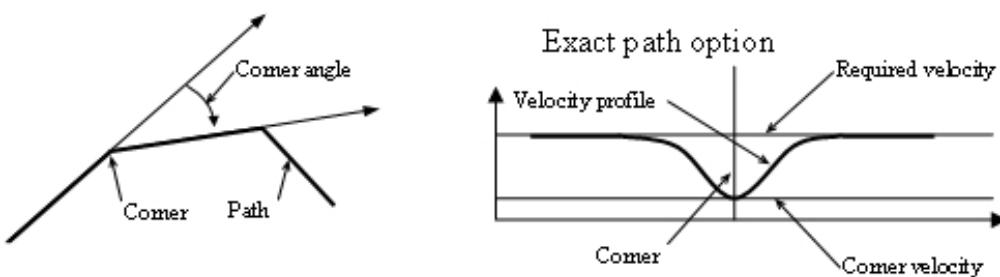

Figure 2-17. Corner Processing - Exact Path Option
**Exact path:** no deviation from the specified path is permitted. The user specifies two additional parameters: threshold angle and corner velocity. The controller compares the corner angle and the threshold angle. If the corner angle is smaller, the controller ignores the corner and tries to move as if the junction is smooth (the threshold angle cannot be large, otherwise passing the junction at working velocity can produce mechanical jerk). If the corner angle is greater, the controller executes deceleration to achieve the junction point with the specified corner velocity (as shown in Figure 2-17).